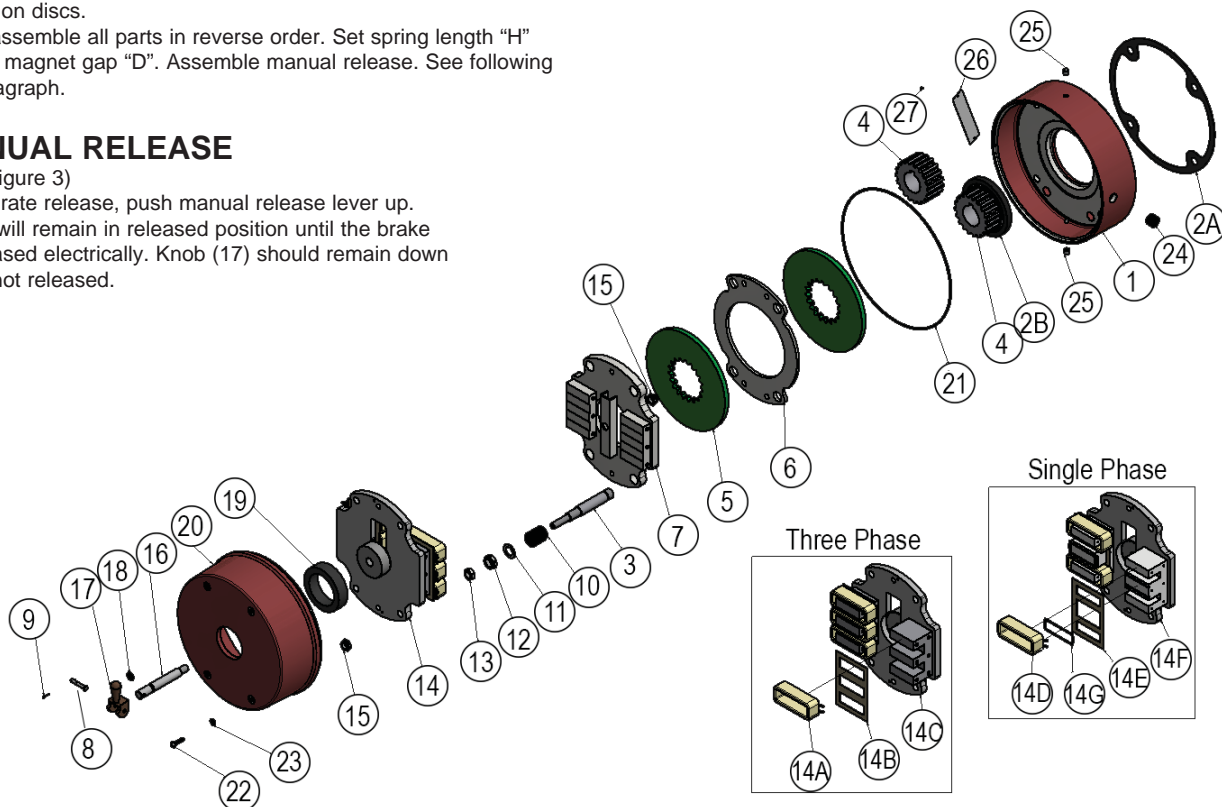

Figure 3. Exploded View of Brake
(See Figures 3 & 5, Tables 1 & 2)
(See Figures 3 & 5)
(See Figures 3 & 5, Table 2)
(See Figure 3)
When assembling a standard manual release mechanism (Figure 3), turn nut (15) to obtain proper release action.
(See Figures 3 & 4)